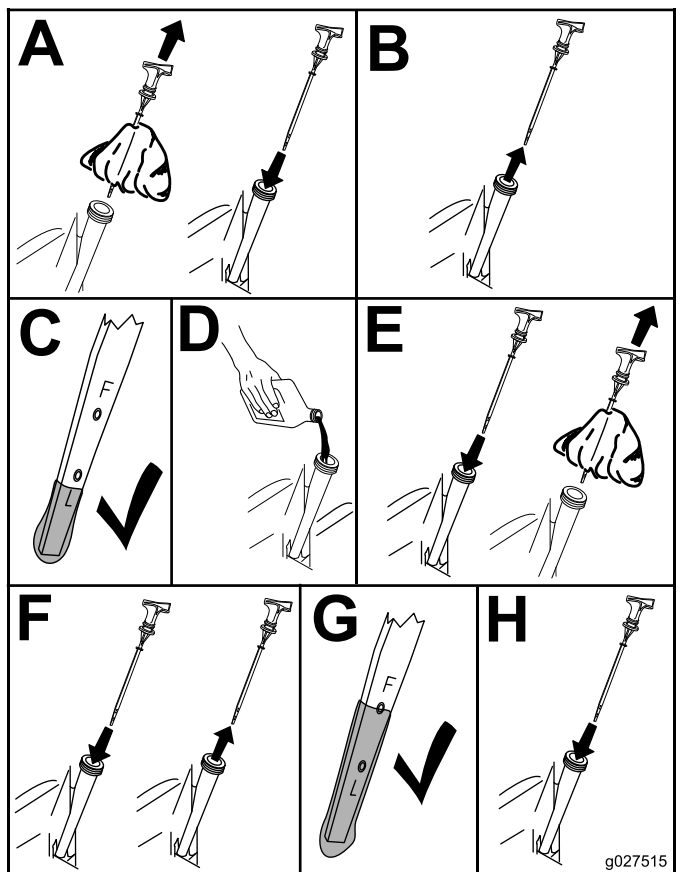

Figure 29
3. Check the engine-oil level (Figure 29).